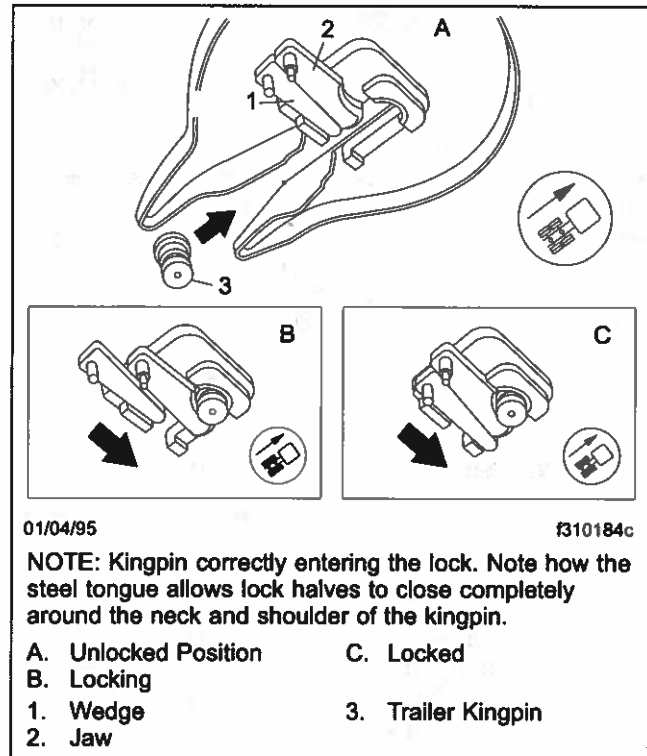

Fig. 10.3, Fontaine Kingpin Lock Mechanism
The Fontaine fifth wheel lock mechanism (**Fig. 10.3**) for the trailer kingpin consists of a spring-loaded jaw and a sliding wedge. The jaw and wedge each have a pin permanently attached. The pin on the jaw and the pin on the wedge fit into elongated notches in the release handle. The notches in the handle control the limit of movement for both the jaw and wedge. The notches are arranged so that the wedge is actuated first during release of the kingpin.
3. Position the tractor so that the fifth wheel lock opening is in line (both vertically and horizontally) with the trailer kingpin. The kingpin should be in a position to enter the throat of the locking mechanism, as shown in **Fig. 10.3**. Adjust the trailer landing gear to give enough alignment height for positive kingpin lockup.